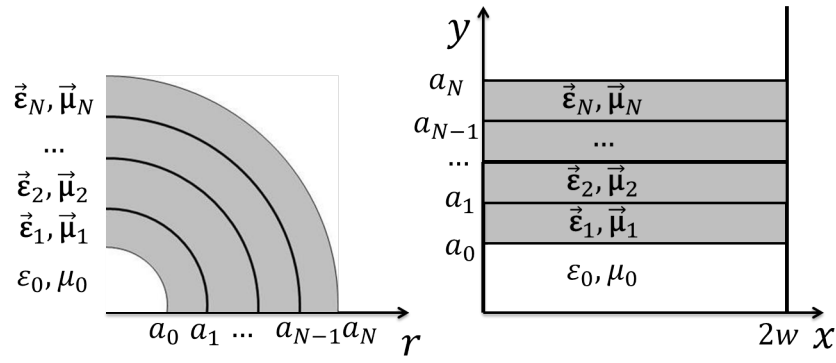

Figure 6.2: Examples of "round" and "rectangular" layered geometry.
The geometry file describes the layered structure shown in Fig. 6.2. It is a text file with arbitrary name. In the examples considered below the geometry files have names with pattern **ExampleXX.txt**, where XX is the example number.
- **Boundary_Condition** [string]. It defines the boundary condition at a_N (see Fig. 6.2). The boundary condition could be 'PEC' or 'Open'. 'PEC' means perfectly electrically conducting material. 'Open' can be used if the last material with parameters $\vec{\epsilon}_N, \vec{\mu}_N$ is infinite and has uniaxial anisotropy: $\epsilon_{r,N} = \epsilon_{\phi,N}, \mu_{r,N} = \mu_{\phi,N}$.